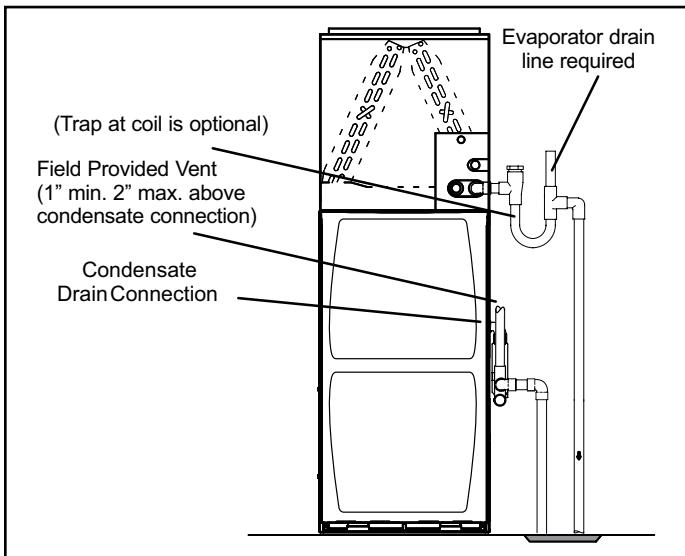
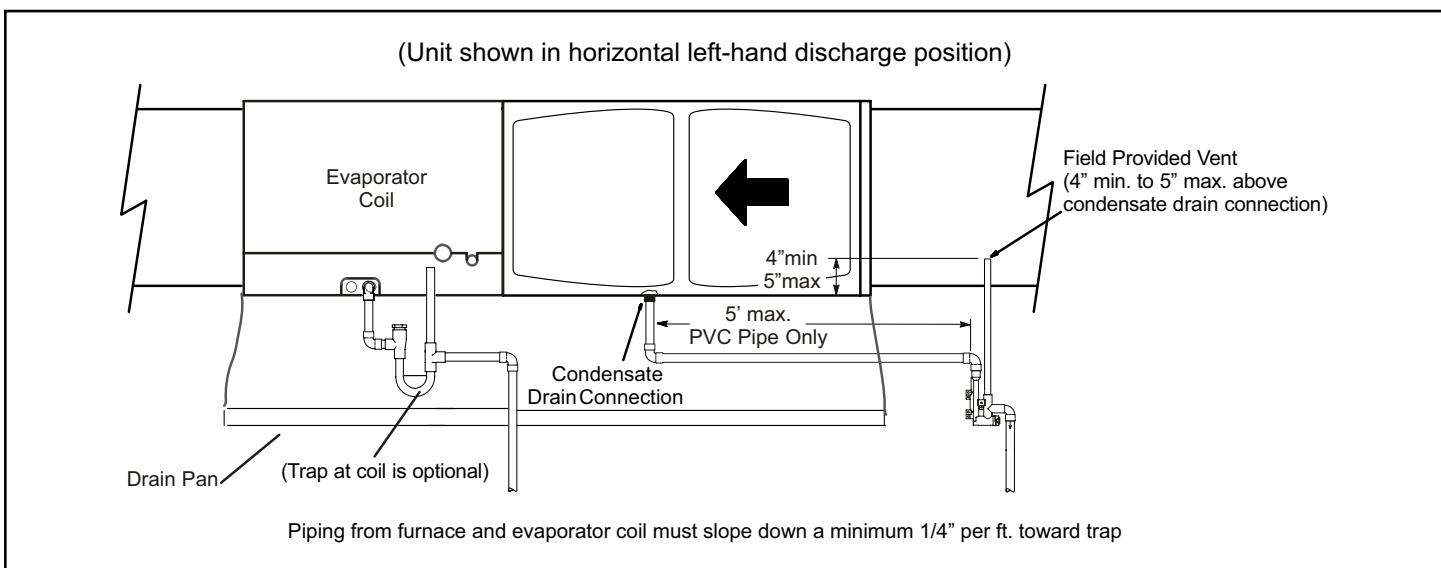
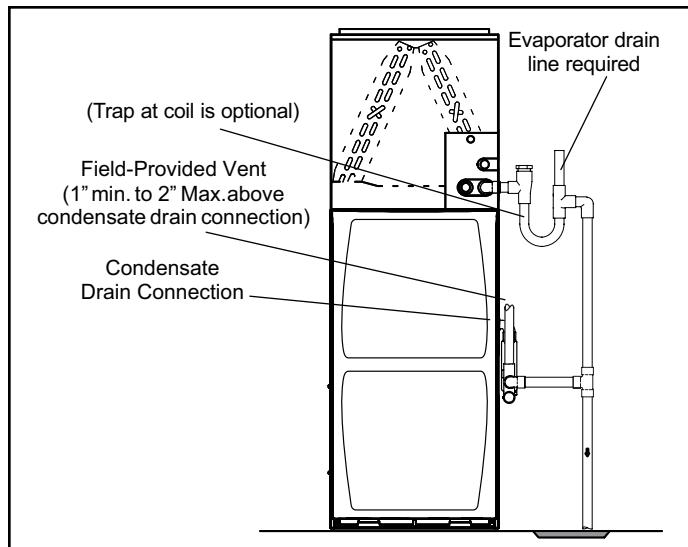

Figure 44. Furnace with Evaporator Coil Using a Separate Drain
Figure 45. Furnace with Evaporator Coil Using a Separate Drain
Figure 47. Furnace with Evaporator Coil Using a Common Drain
5. Figure 44 and Figure 45 show the furnace and evaporator coil using a separate drain. If necessary the condensate line from the furnace and evaporator coil can drain together. See Figure 47 through Figure 48.
Upflow furnace (Figure 44) - In upflow furnace applications the field provided vent must be a minimum 1" to a maximum 2" length above the condensate drain outlet connection. Any length above 2" may result in a flooded heat exchanger if the combined primary drain line were to become restricted.
Horizontal furnace (Figure 45) - In horizontal furnace applications the field provided vent must be a minimum 4" to a maximum 5" length above the condensate drain outlet connection. Any length above 5" may result in a flooded heat exchanger if the combined primary drain line were to become restricted.